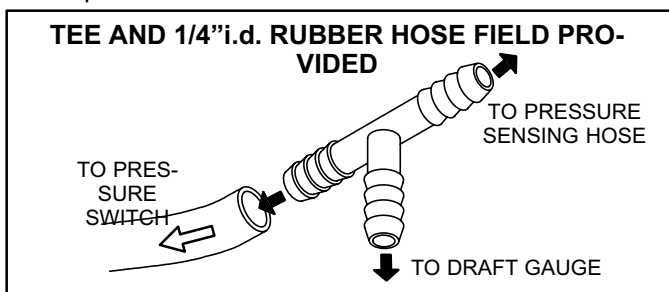

FIGURE 21
- 2 - Disconnect hose from the burner box side of pressure switch and install tee as shown in figure 21. Repeat sequence for hose connected to combustion blower side of pressure switch.